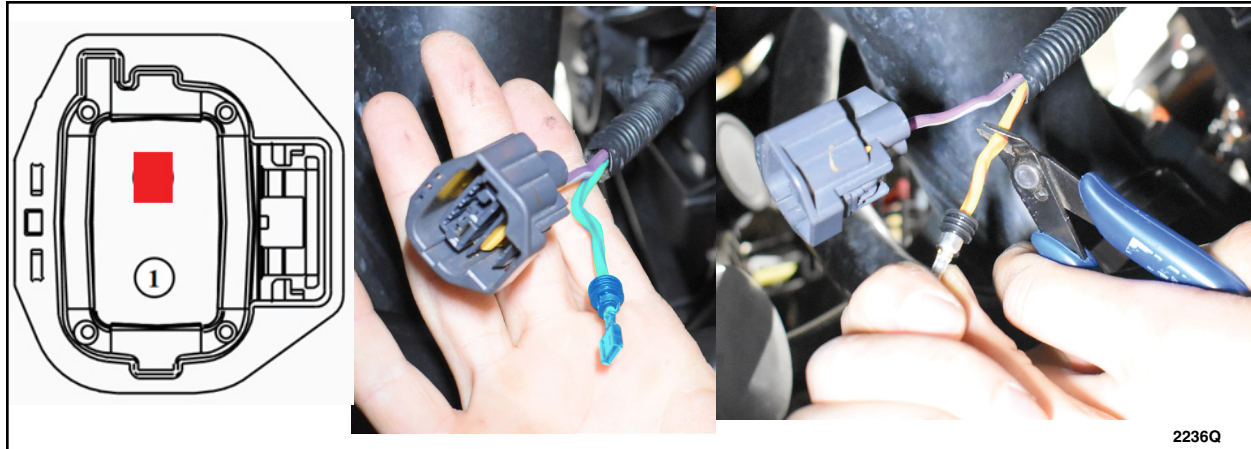

FIGURE 23
27. Identify cavity 2 which contains a yellow wire with an orange tracer. Remove wire located in cavity 2 from the connector. Cut terminal end off of wire. See Figure 23.